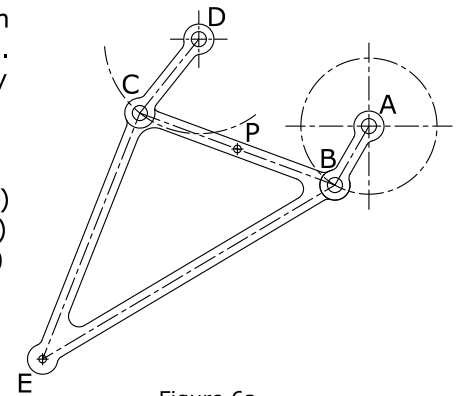
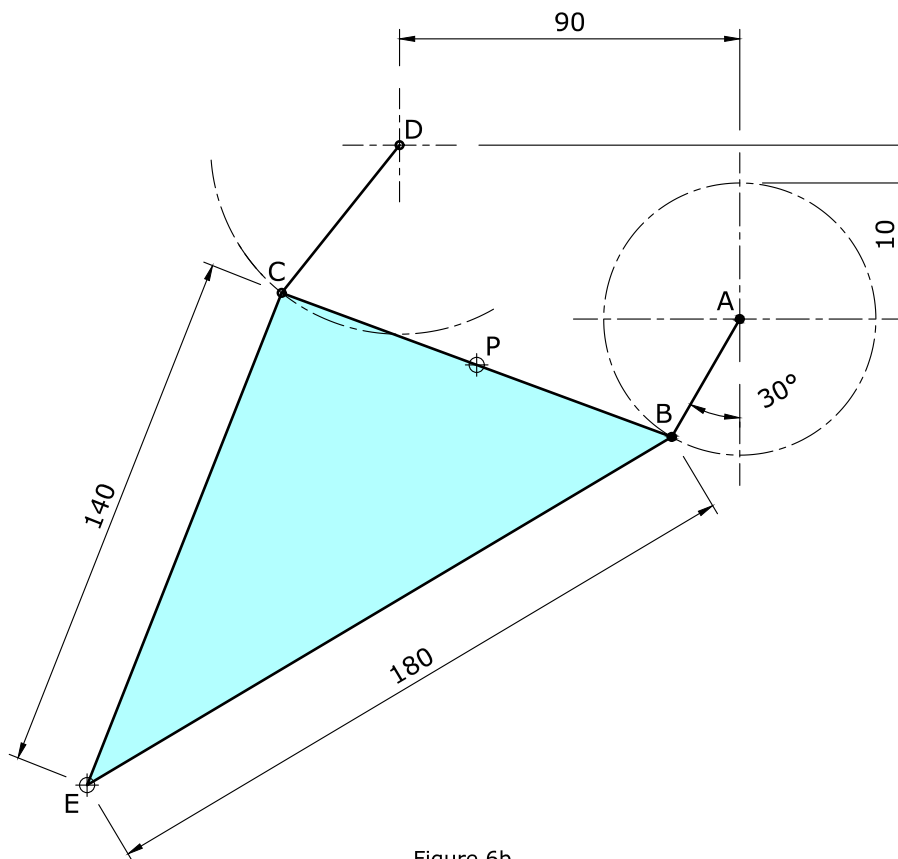

Figure 6a
Figure 6b
A structural illustration of a four-bar walking linkage is shown in Figure 6a. The mechanism is made up of a rotating crank AB pivoted at A, an oscillating crank CD pivoted at D and a solid triangular structure BCE. Points A and D are fixed pivots and points C and B are free pivots. A partly dimensioned line drawing of the linkage is shown in Figure 6b.
- a. copy the line diagram given in Figure 6b; (2)
- b. plot the locus of point P for one complete revolution of crank AB; (6)
- c. plot the locus of point E for one complete revolution of crank AB. (12)